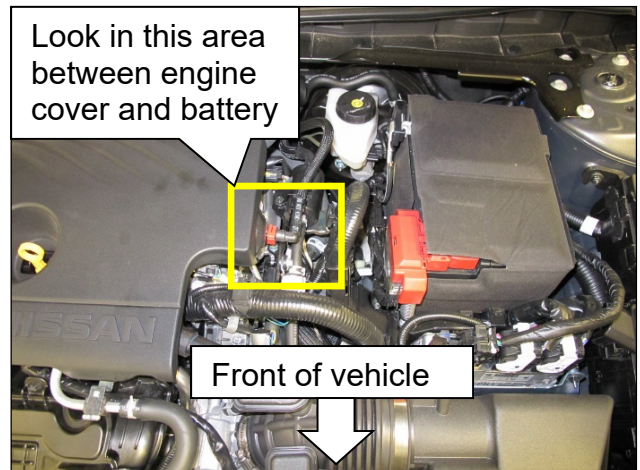

Figure 2
2. Locate the fuel feed hose retainer area outlined in Figure 2.